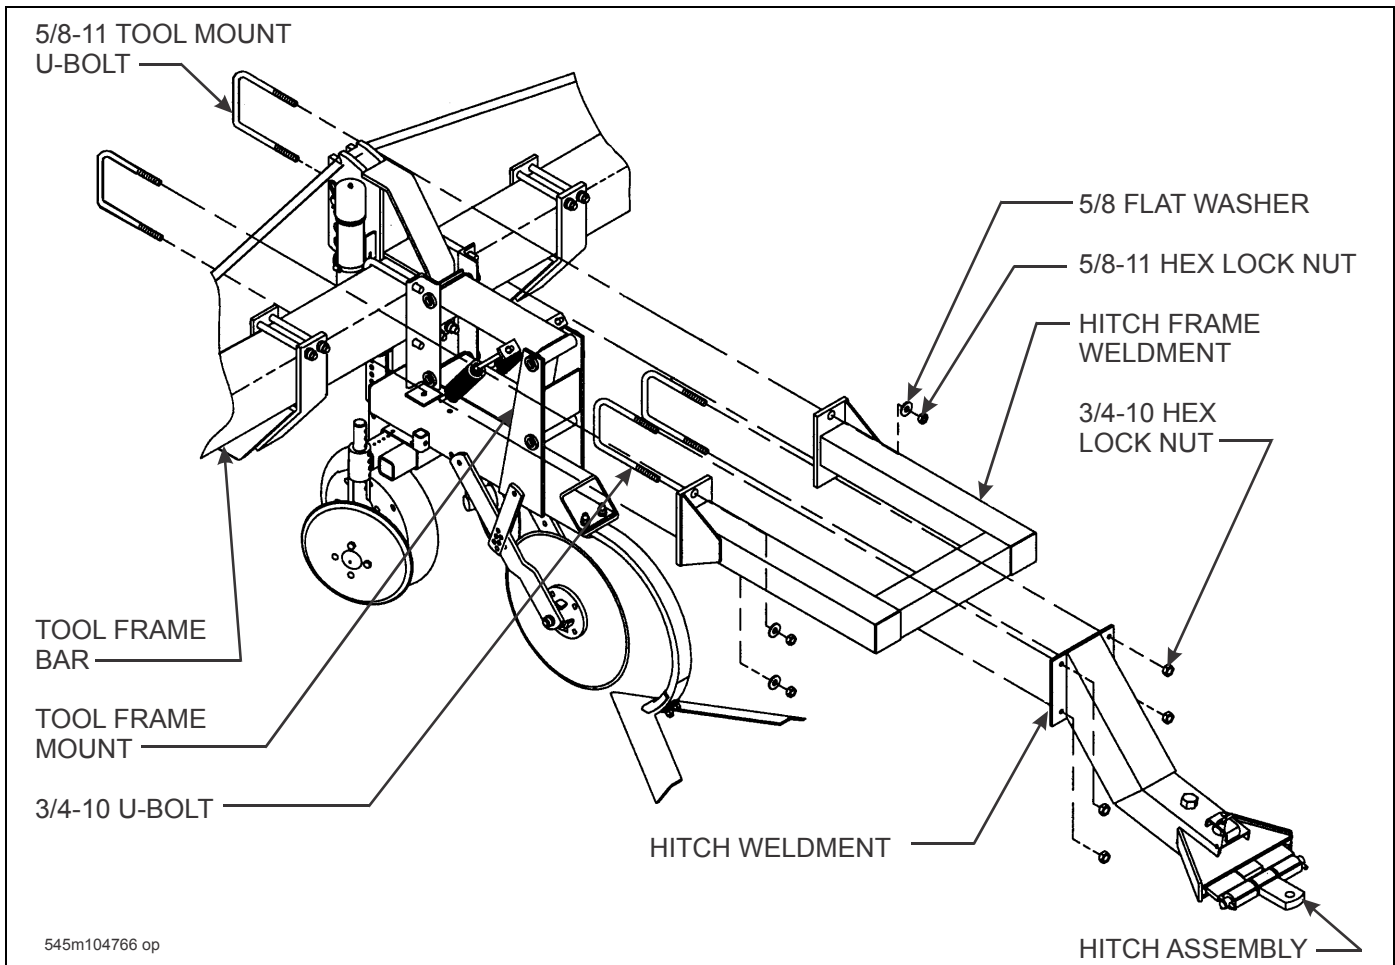

Figure 3-10: Nurse Tank Hitch Installation
See Figure 3-10 for parts names.
3. Assemble the hitch assembly to the hitch frame weldment (**See Figure 3-10.**)